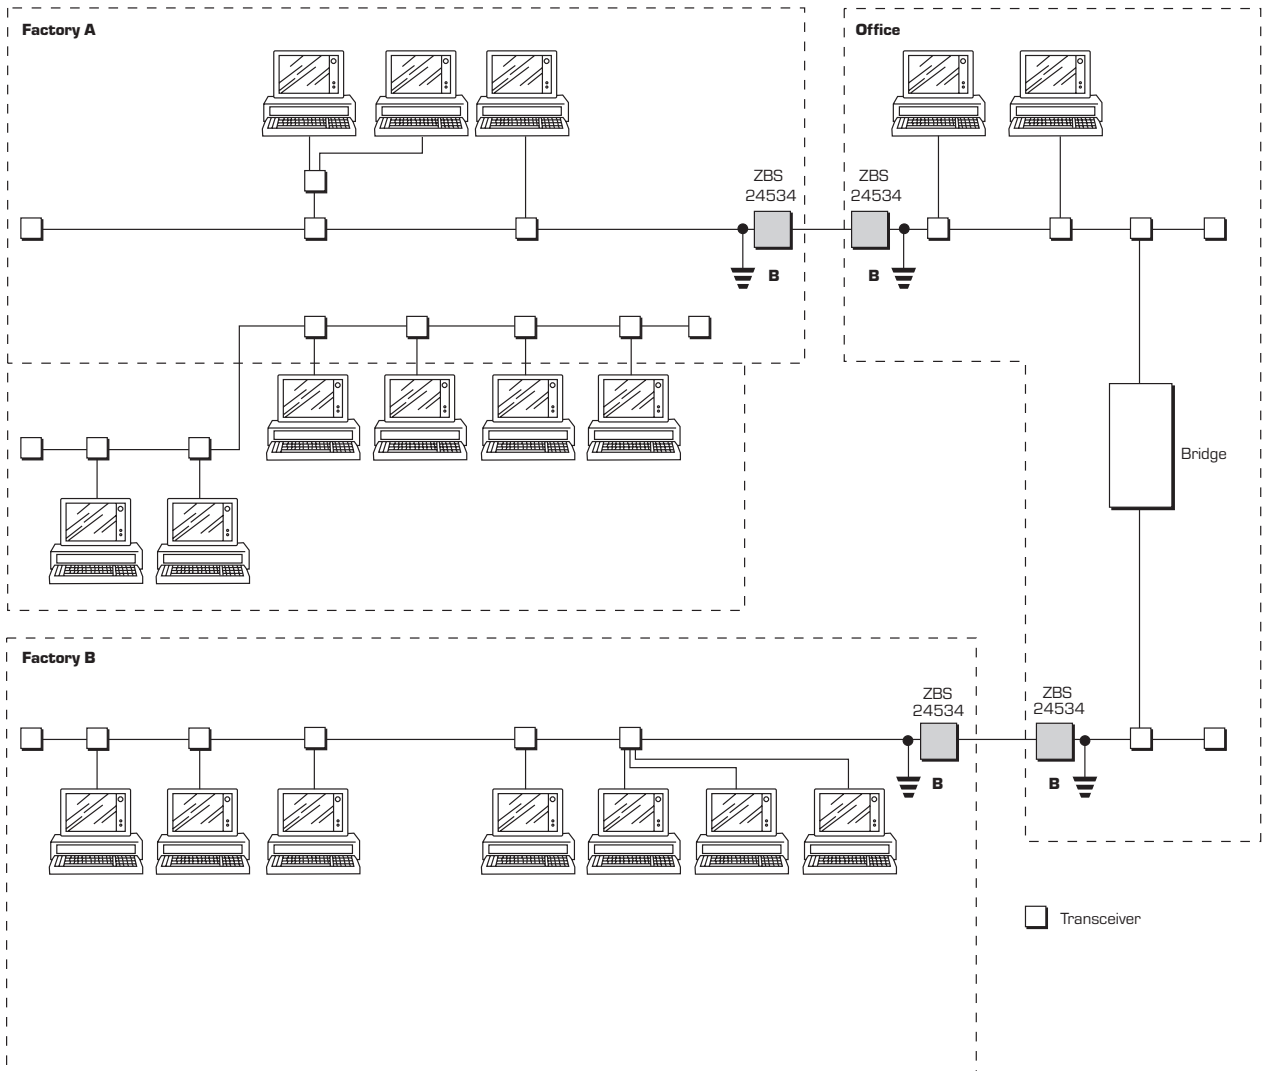

Figure A4.2 Recommended surge protection for the LAN
In case (1) network surge protection devices (SPDs) type ZoneBarrier ZBS 24534 should be installed at positions B in figure A4.2, close to the mains power distribution board, and earthed there using as short a length of cable as possible, with a diameter of 2.5mm² or greater (length is much more important than diameter). To reduce the effect of cable inductance, several cables can be run electrically in parallel, but spaced apart physically. If earthed metal panels are available at the distribution board, these would offer further reduction in inductance, and better protection.